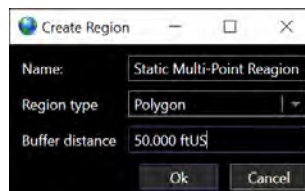

FIGURE 19-13 STATIC MULTI-POINT CREATE REGION DIALOG
- ii. In the resulting Create Region dialog (see Figure 19-13)